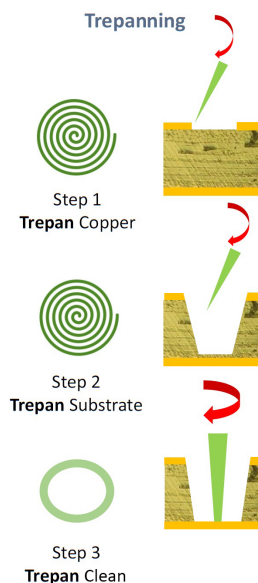

Figure 2: Trepanning process.
- **Trepanning:** The laser beam follows a spiral path to cut out the hole. This is used when the desired hole is larger than the beam diameter (Figure 2).